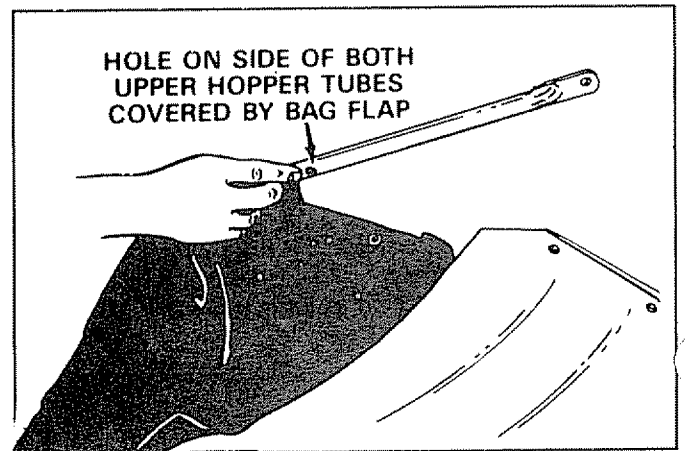

FIGURE 11
2. Locate the hole on side of both upper hopper tubes. See figure 11. The bag will require piercing at these holes in a later step. Refer to step 12 on page 8.